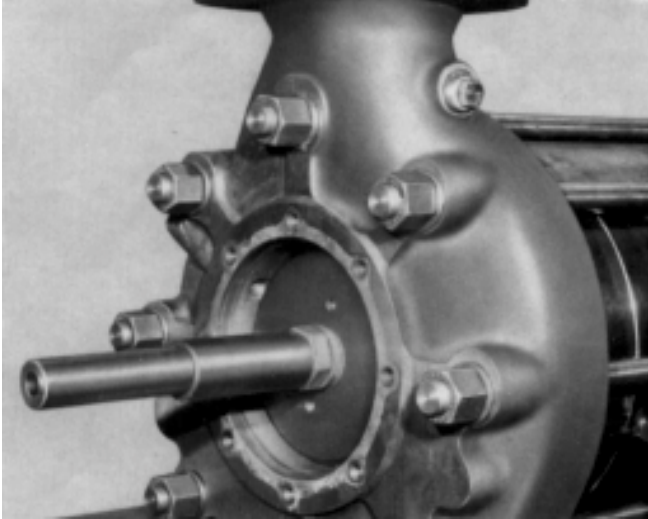

Fig. 65 Mounting the shaft protection sleeve.
1. Slip shaft protecting sleeve (524.2) onto shaft (210) after insertion of O-ring (412.3), and pull it tight against spacer sleeve (525.2). (see Fig. 65)